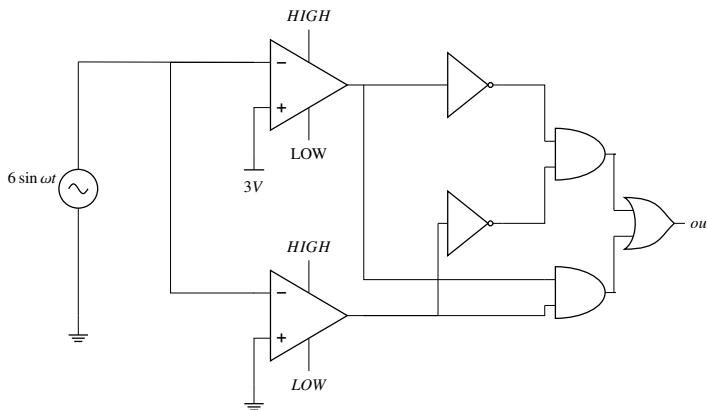

Fig. 3.12: Circuit Diagram
26. In the circuit shown below in Fig. 3.12, assume that the comparators are ideal and all components have zero propagation delay. In one period of the input signal $V_{in} = 6 \sin(\omega t)$, the fraction of the time for which the output OUT is in logic HIGH is